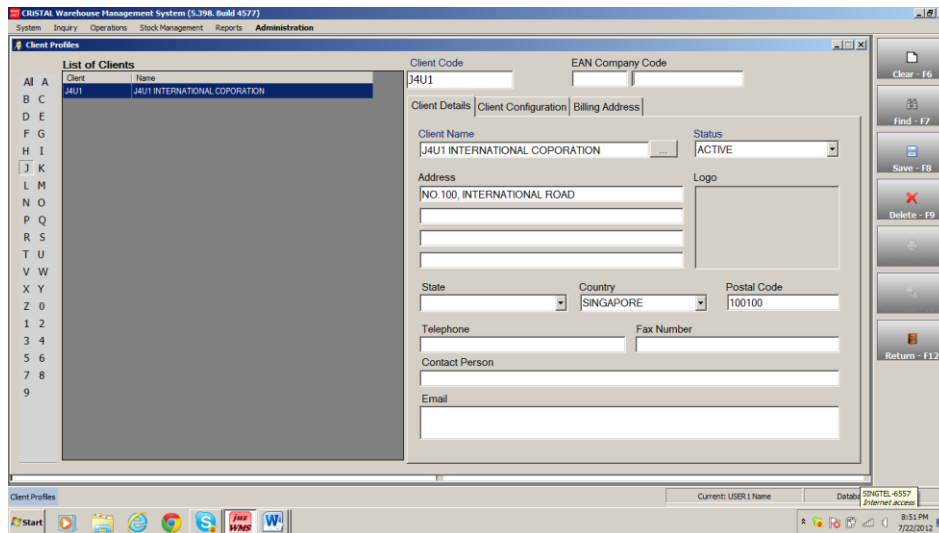

Fig.1
1. At Client Details (Fig.1), enter the preference code in the 'Client Code' field.